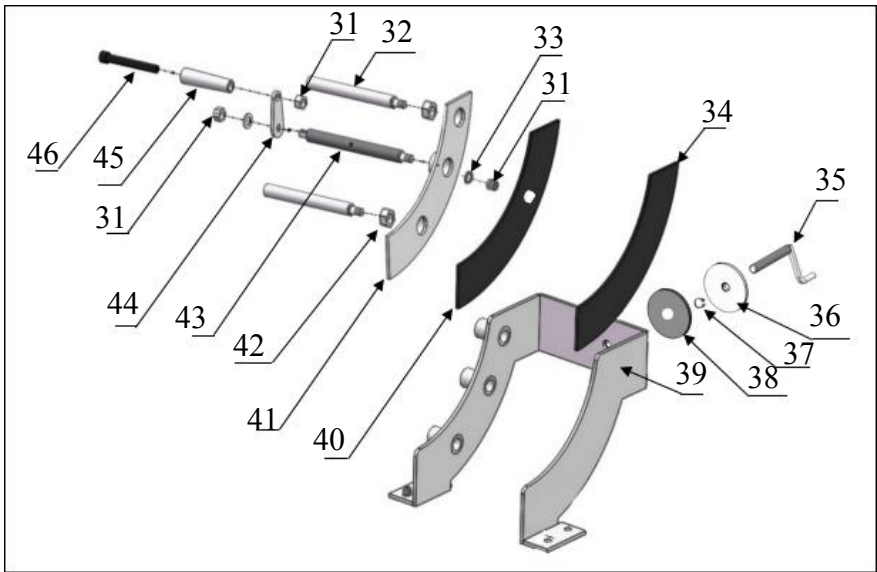

Fig.14
3. Exploded view of wheel vise (See Fig 14)